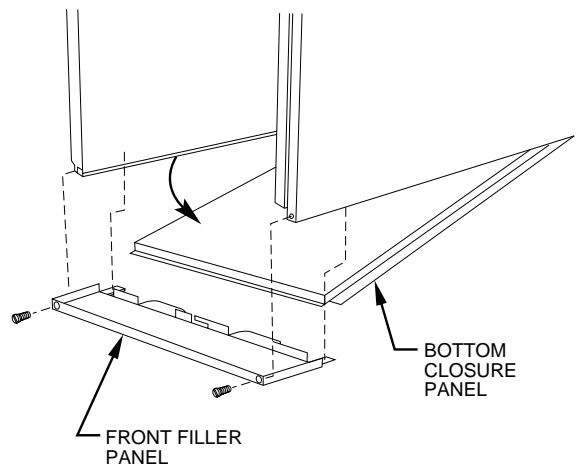

Fig. 26—Removing Bottom Closure Panel
1. Tilt or raise furnace and remove 2 screws holding front filler panel. (See Fig. 26.)